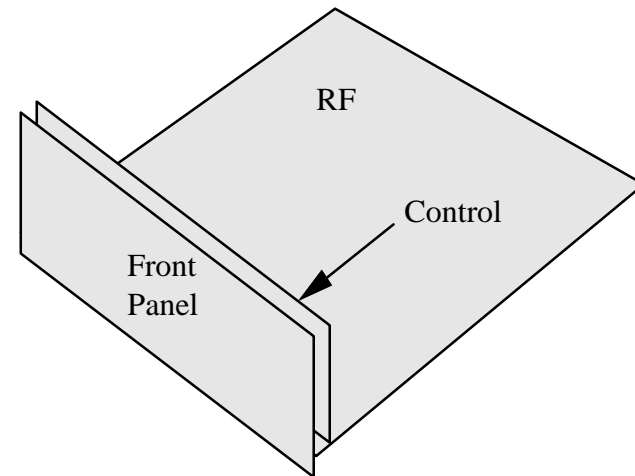

Figure 3-2
As shown in Figure 3-2, there are three printed circuit boards (PCBs) in the basic K2 kit: the Front Panel board, Control Board, and RF board. Option modules plug into the RF or Control board, but are not shown here.
- three printed circuit boards (Figure 3-2)